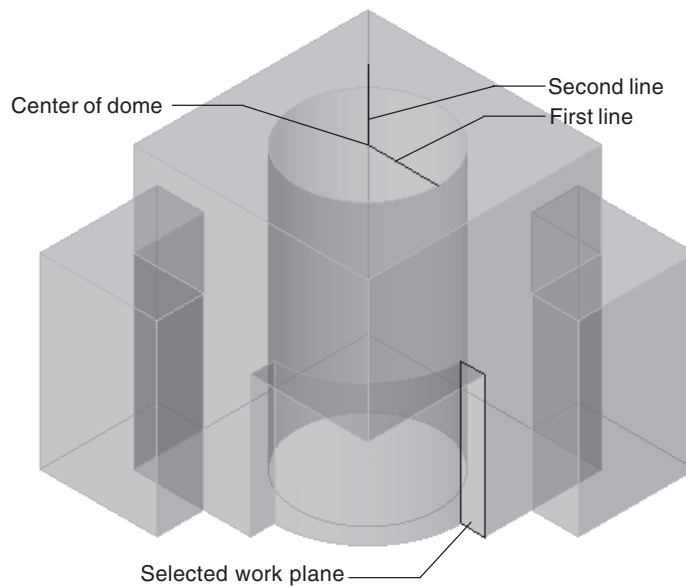

Figure 9-47 Sketching the dome geometry
- e. Use the **Solid Form** and **Solid Revolve** tools to generate the atrium dome, refer to Figures 9-47 through 9-49.
6. Select the right side entrance wall as the work plane, refer to Figure 9-47.
8. Sketch the first line from the edge of the circle to the center of the dome and the second line from the center vertically upward with 15'0" length, as shown in Figure 9-47.